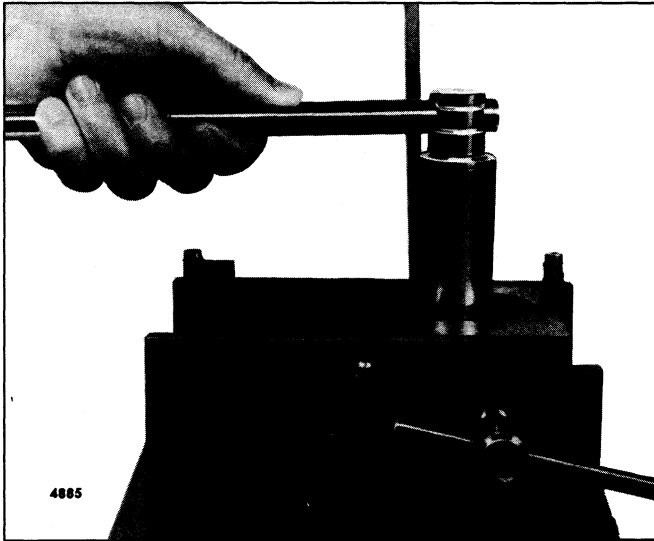

Fig. 11 - Removing Injector Nut using Tool J 22799
4. Rotate the injector in the injector assembly fixture and loosen the nut on the injector body, using injector nut socket J 22799 (Fig. 11).